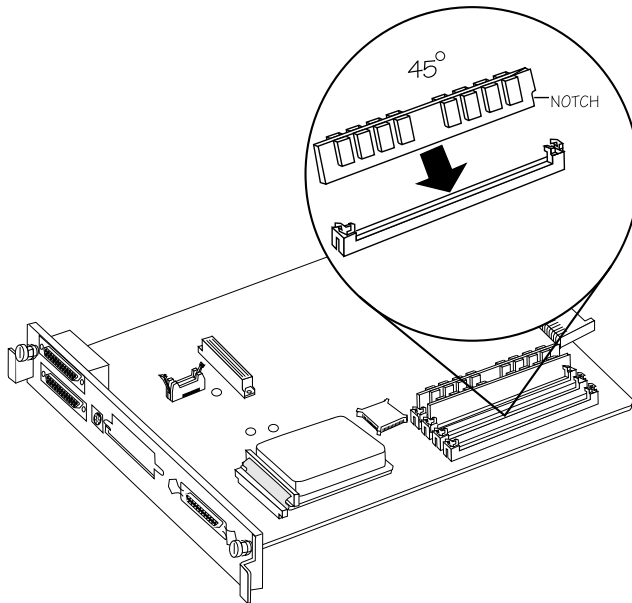

Fig. 8.15 Insert the SIMM into the Connector
7. Hold the new SIMM at a 45° angle, with the notch on the right-hand side (fig. 8.15). Insert the bottom edge of the new SIMM into an open connector.